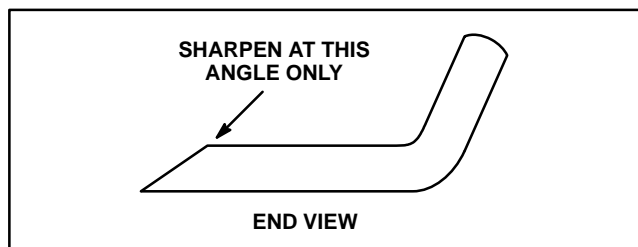

Figure 25
5. Inspect cutting edges of all blades. Sharpen the cutting edges if they are dull or nicked. Sharpen only the top of the cutting edge and maintain the original cutting angle for best performance (Fig. 25). The blade will remain balanced if same amount of metal is removed from both cutting edges.